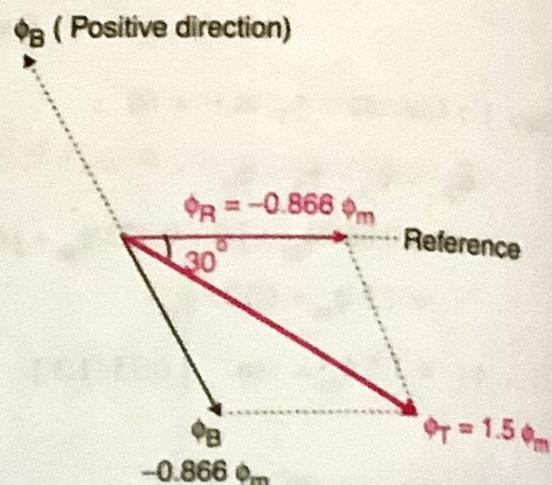

Fig. 8.5.3(c) : ϕ_T at $\theta = 120^\circ$
- It shows that at $\theta = 120^\circ$, ϕ_T lags by 30° . The phasor diagram for $\theta = 120^\circ$ is shown in Fig. 8.5.3(c).